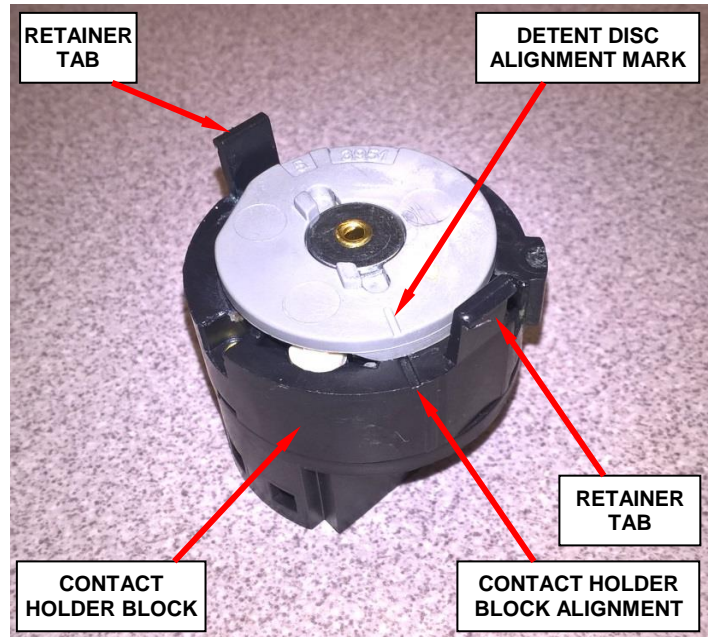

Figure 6 – Contact Holder Block Alignment Marks
- 12. Align the alignment marks on the new contact holder block (Figure 6).